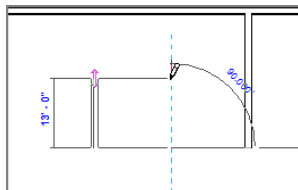

FIGURE 2.19: By using the Offset command as you draw walls, you can use one common centerline.
8. After you pick the 25' (7500mm) distance, move your cursor up, back toward the wall, as shown in Figure 2.19, resulting in a 25'-long (7500mm) wall.